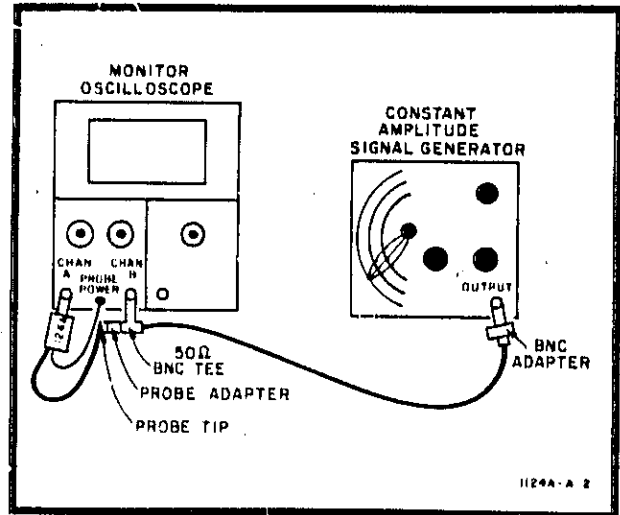

Figure 3. Bandwidth Test Setup
23. BANDWIDTH. Connect equipment as shown in Figure 3 and proceed as follows: